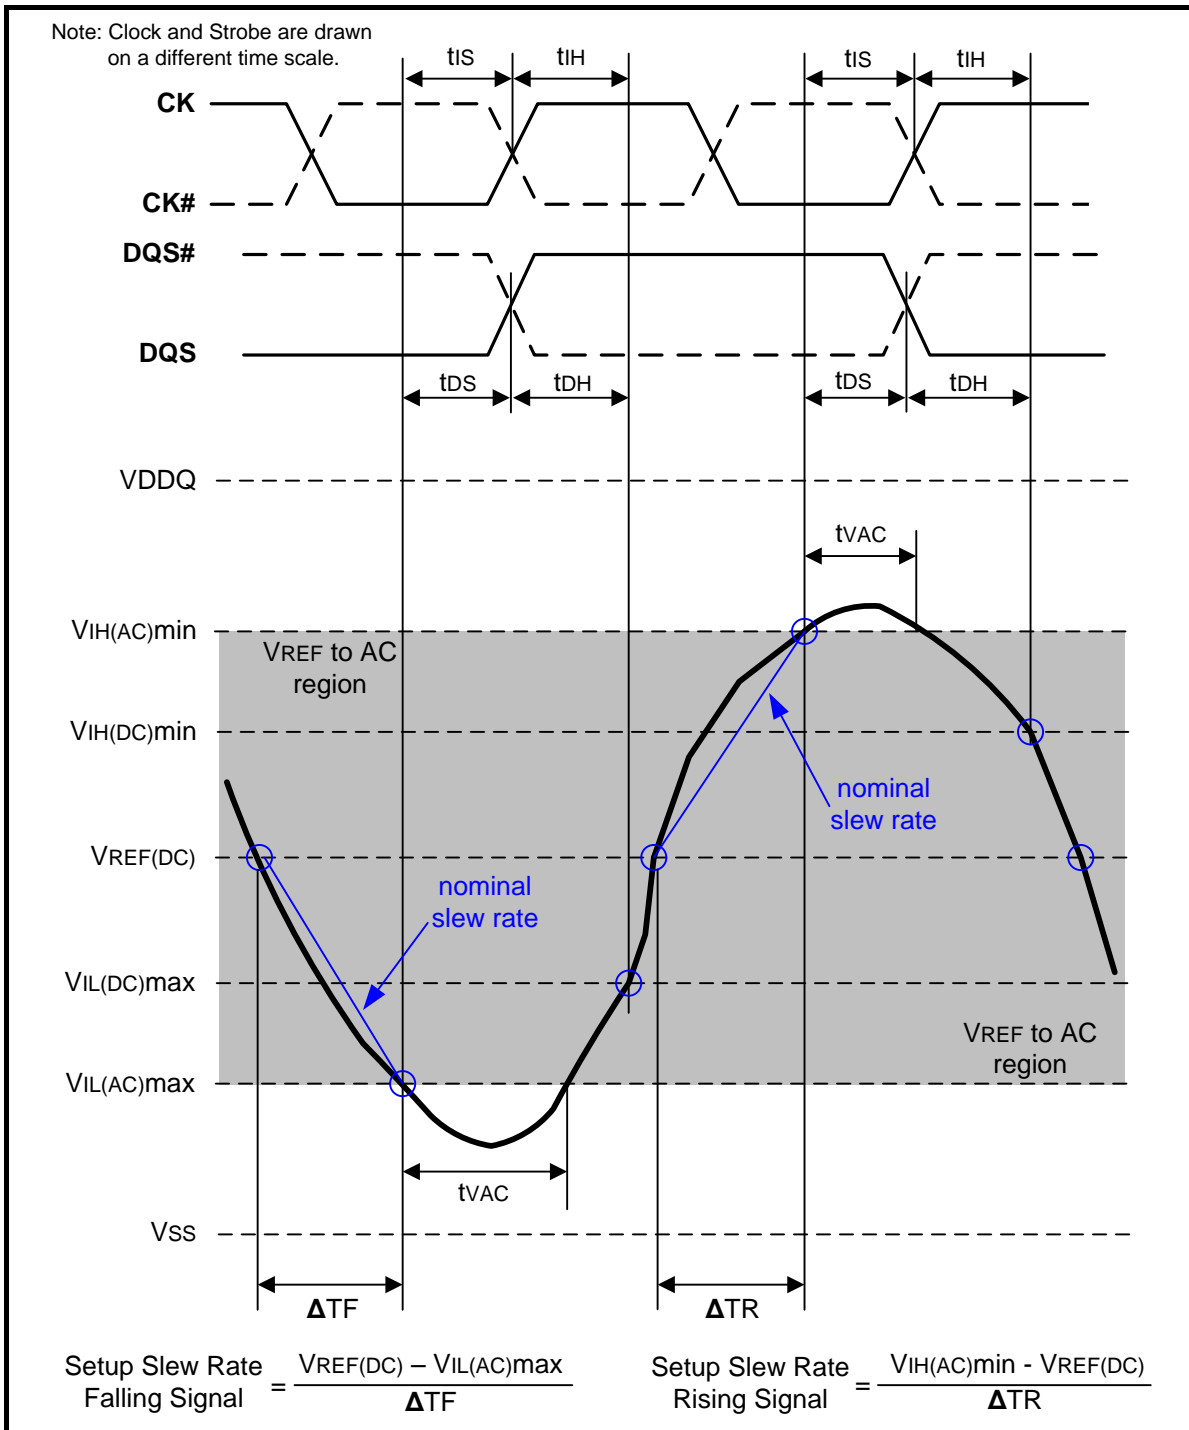
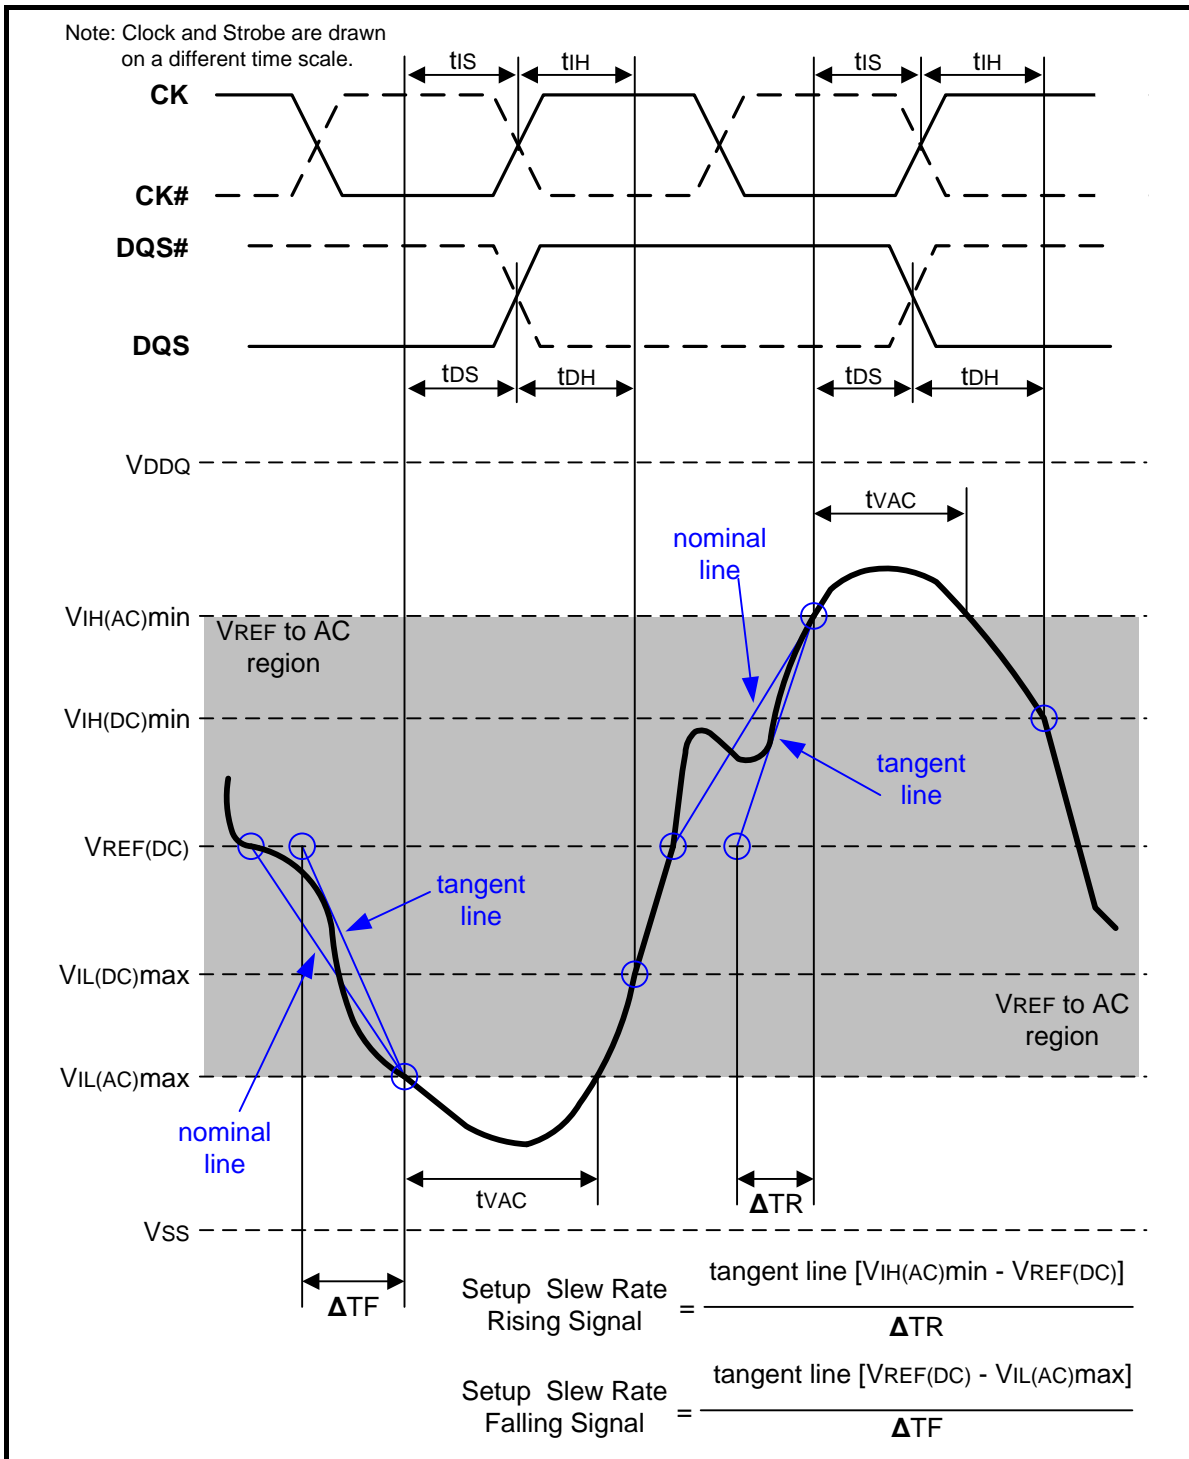

Figure 107 – Illustration of nominal slew rate and tvAC for setup time tDS (for DQ with respect to strobe) and tIS (for ADD/CMD with respect to clock)
Figure 109 – Illustration of tangent line for setup time tDS (for DQ with respect to strobe) and tIS (for ADD/CMD with respect to clock)
Setup (t_{IS}) nominal slew rate for a rising signal is defined as the slew rate between the last crossing of $V_{REF(DC)}$ and the first crossing of $V_{IH(AC)min}$. Setup (t_{IS}) nominal slew rate for a falling signal is defined as the slew rate between the last crossing of $V_{REF(DC)}$ and the first crossing of $V_{IL(AC)max}$. If the actual signal is always earlier than the nominal slew rate line between shaded 'VREF(DC) to AC region', use nominal slew rate for derating value (see Figure 107). If the actual signal is later than the nominal slew rate line anywhere between shaded 'VREF(DC) to AC region', the slew rate of a tangent line to the actual signal from the AC level to $V_{REF(DC)}$ level is used for derating value (see Figure 109).
Setup (tDS) nominal slew rate for a rising signal is defined as the slew rate between the last crossing of VREF(DC) and the first crossing of VIH(AC)min. Setup (tDS) nominal slew rate for a falling signal is defined as the slew rate between the last crossing of VREF(DC) and the first crossing of VIL(AC)max (see Figure 107). If the actual signal is always earlier than the nominal slew rate line between shaded 'VREF(DC) to AC region', use nominal slew rate for derating value. If the actual signal is later than the nominal slew rate line anywhere between shaded 'VREF(DC) to AC region', the slew rate of a tangent line to the actual signal from the AC level to VREF(DC) level is used for derating value (see Figure 109).